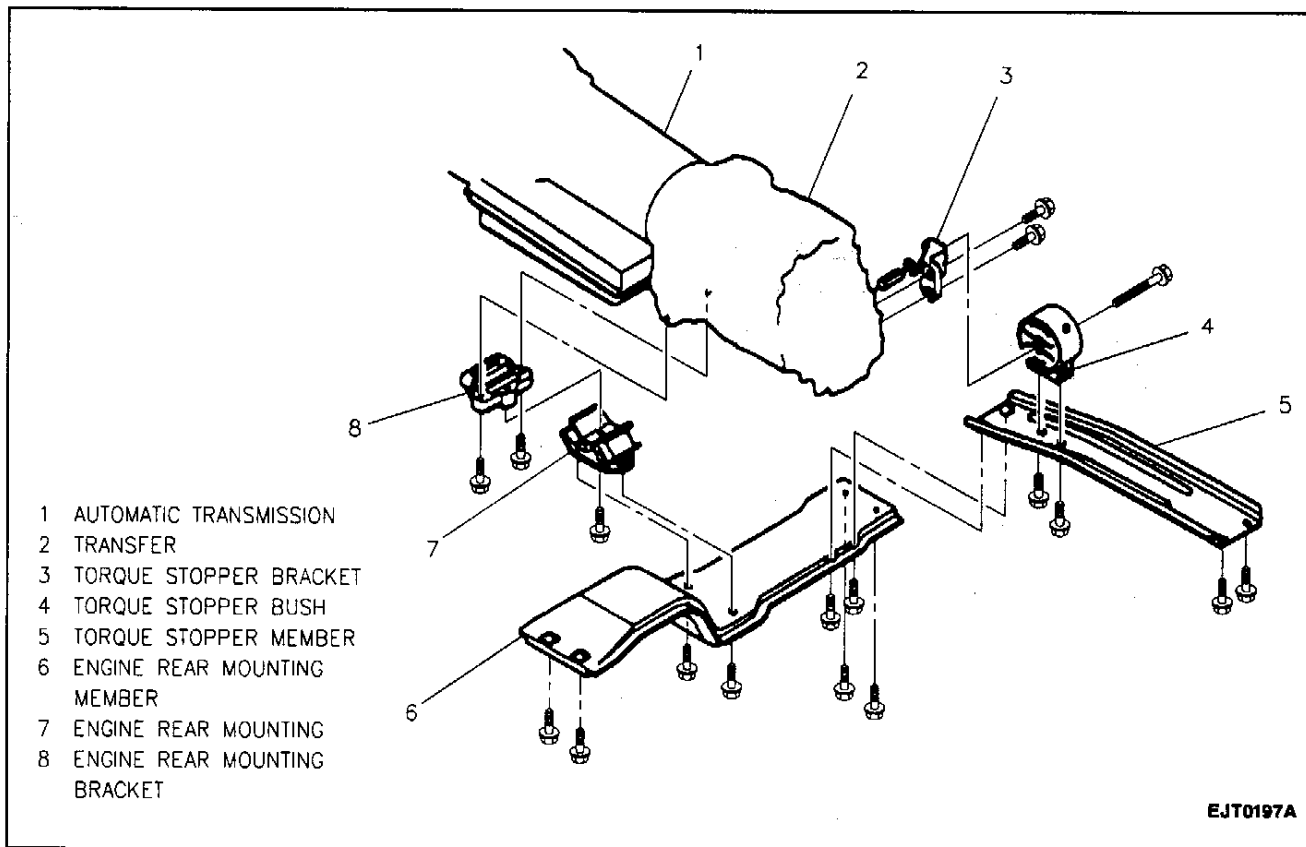

Figure 124—Transmission Rear Mounting Hardware (03-72LE, 4-Speed)
30. Two bolts from engine rear mounting (four-wheel drive models) (Figure 124).
31. Two bolts from engine rear mounting member and torque stopper member securing torque stopper bushing to torque stopper bushing member (four-wheel drive models) (Figure 124).
32. Four bolts and engine rear mounting member from undercarriage (four-wheel drive models) (Figure 124).
43. Place a wood block with the dimensions shown in Figure 124 between the distributor gear housing and the bulkhead to prevent the distributor and other components from being damaged when the transmission is lowered.
15. Engine rear mounting member to undercarriage (four-wheel drive models); secure with four bolts (Figure 124).
16. Torque stopper bushing to torque stopper member (four-wheel drive models); secure with two bolts (Figure 124).
17. Two bolts securing engine rear mounting to engine rear mounting member (four-wheel drive models); secure with four bolts (Figure 124).